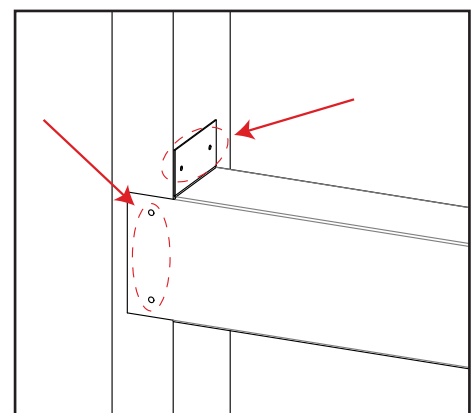

Figure 17: Steel Stud Installation
- Attach the steel stud to the framing studs using the holes shown in Figure 17.